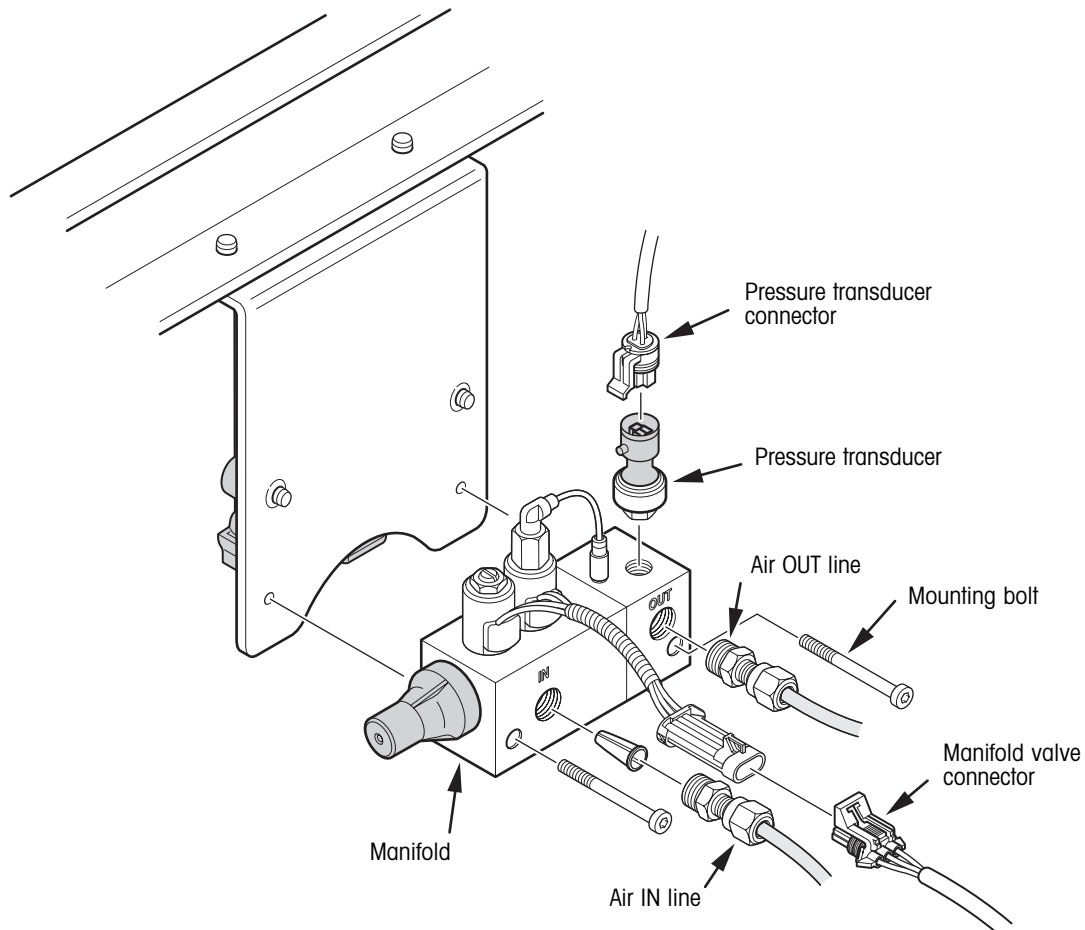

Figure 30. Manifold assembly replacement
2. Disconnect the pressure transducer connector (figure 30).